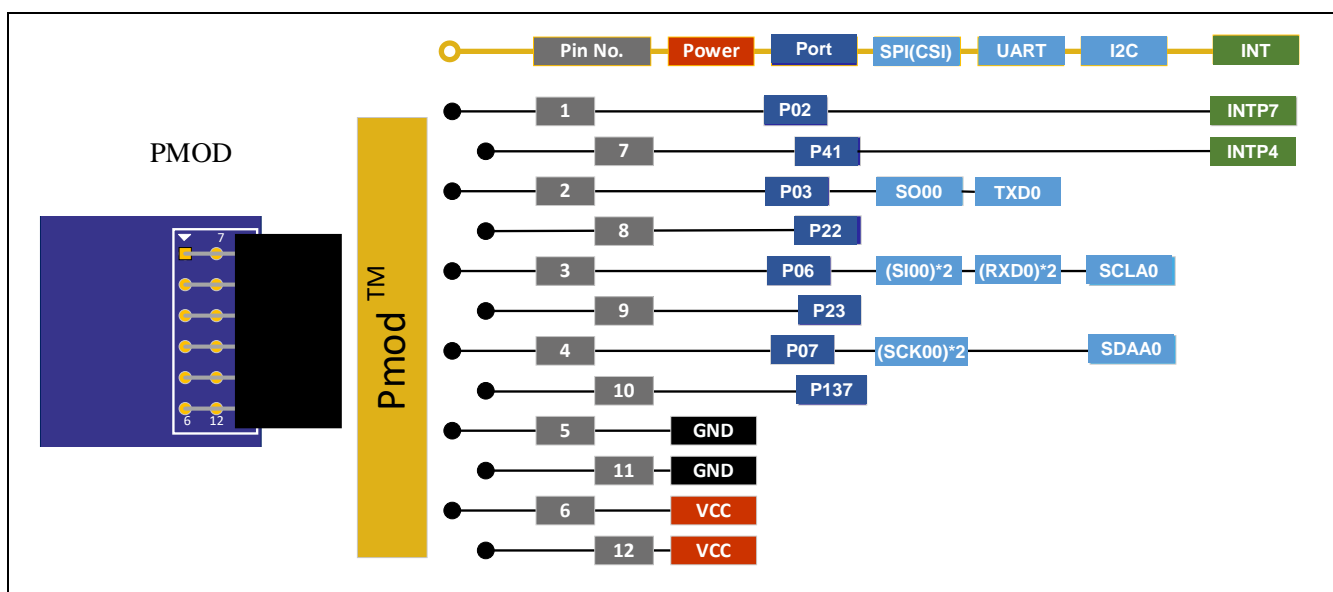

Figure 5-2 Pin Assignments of the Pmod™ Connector
- Obtaining the configuration in Figure 5-2 requires switching the wiring by using the short-circuit pads.
Figure 5-2 and Table 5-3 show the pin assignments of the Pmod™ connector.